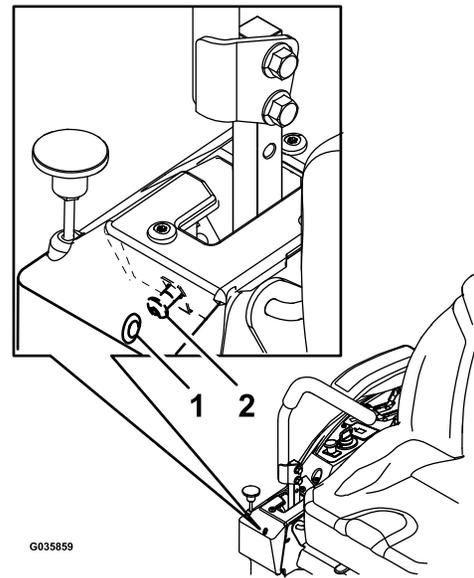

Figure 69
6. If the machine tracks to the right, insert a 3/16 inch hex wrench through the access hole in the right front cover panel and rotate the tracking screw clockwise or counterclockwise to adjust the travel of the lever (Figure 69).
7. If the machine tracks to the left, insert a 3/16 inch hex wrench through the access hole in the right front cover panel and rotate the tracking screw clockwise or counterclockwise to adjust the travel of the lever (Figure 69).